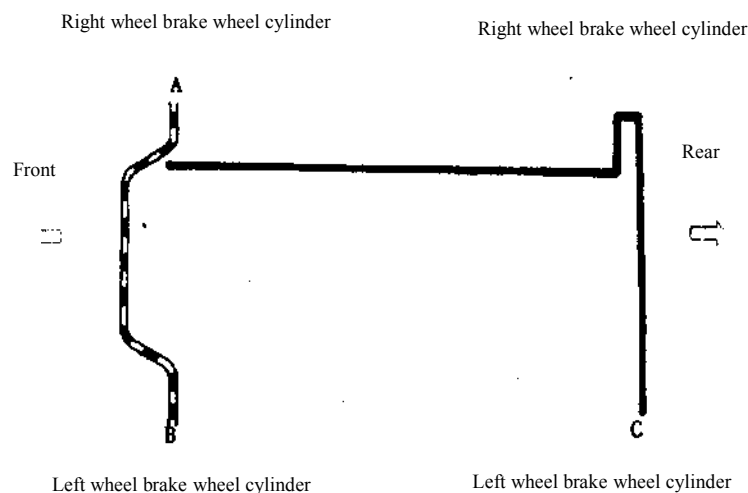

Fig.3.7-30
① If the brake hose of the front wheel brake pipe or hoses are separated, air in the left and right front wheel brake system must be exhausted.
② If the rear wheel brake pipe or brake pipe or hose on brake wheel cylinder are separated, air in the left and rear brake wheel cylinder must be exhausted.
③ However, if there is air in the brake master cylinder, brake oil cylinder, hose, five body and the hydraulic system, air shall be exhausted through the parts of “A”, “B” and “C” as is indicated in Fig.3.7-30 from the hydraulic system. The exhaust shall start from the brake wheel cylinder which is the farthest from the brake master cylinder. The steps are as follows,